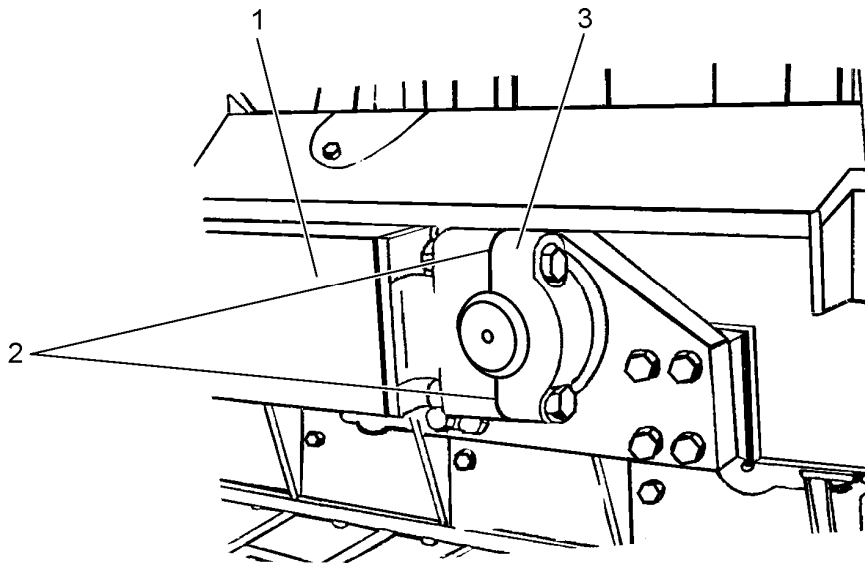

Fig. 17.4. Removing the Trunnion Caps
4. Remove trunnion cap (3, Fig. 17.4) and shims (2) from each push arm (1).
1. Drive the machine between the push arms (1, Fig. 17.4). Position trunnion cap (3) over the trunnion and connect it to push arm (1) with the two bolts and nuts. Be sure to tighten the bolts evenly. Determine the number of shims (2) needed to fill the gap between cap (3) and push arm (1), than add one additional shim to provide clearance. Remove the bolts, add the number of shims (2) required and install and torque the bolts to 1050 [Nm]. Repeat this procedure on the opposite side of machine. It may be necessary to adjust the diagonal struts to move the push arms either in or out before attaching them to the trunnions.
5. Remove the trunnion cap (3, Fig. 17.4) and shims (2) from the push arm (1) and remove the push arm.
2. Position trunnion cap (3, Fig. 17.4) over the trunnion and connect it to push arm (1) with the two bolts and nuts. Be sure to tighten the bolts evenly. Determine the number of shims (2) needed to fill the gap between cap (3) and push arm (1), then add one additional shim to provide clearance. Remove the bolts, add the number of shims (2) required, install the bolts and torque to 1050 [Nm].